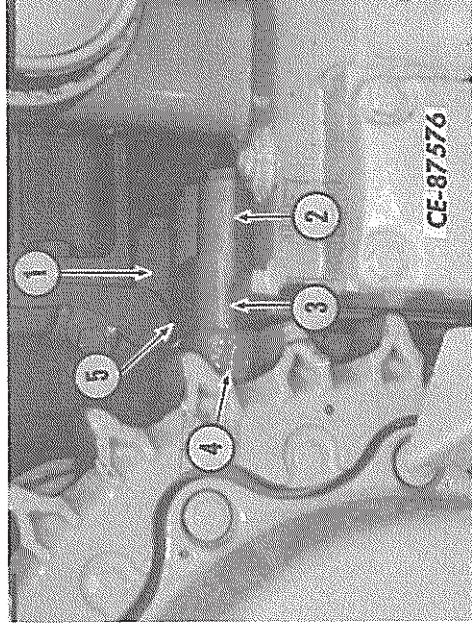

FIG. 51 — Pivot Shaft Mounting Caps (TD-15C Only)
TD-15C ONLY: Remove the outer cap (2, Fig. 51) securing the track frame pivot shaft to the sprocket drive carrier (4). Loosen the mounting bolts on the inner cap (1) on each side of the tractor. Pry forward slightly on the pivot shaft to remove the shims (5) between the spacer (3) and sprocket drive carrier. The spacer should be worked free of the carrier when the sprocket drive assembly is removed from the unit. Keep the shims together with the spacer and outer cap to facilitate reassembly.
Remove the three corks or set screws from the sprocket drive carrier and install puller bolts. Turn in the puller bolts until pry bars can be inserted to pry the assembly from the dowels. Pull the assembly straight away from the frame until the pinion shaft clears the frame. On the TD-15C, the pivot shaft spacer (3, Fig. 51) should be worked free of the carrier as the assembly is being removed.